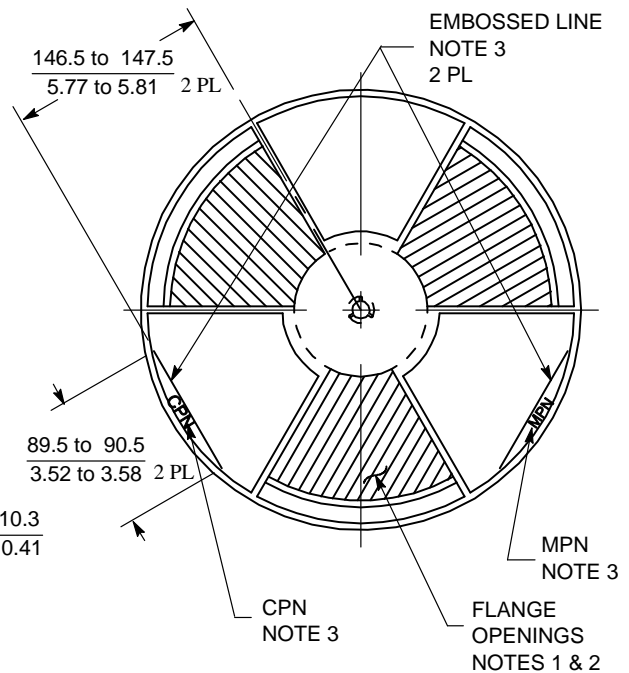

Figure 48. Front View of 330 mm (12.99 in) Reel
- If there are any flange opening on the front flange of the 330 mm (13.0 in) reel they must be designed in locations so that two of the 41.3 mm (1.65 in) by 125 mm (4.90 in) ON Semiconductor barcode labels can be applied parallel to each other as in Figure 48.